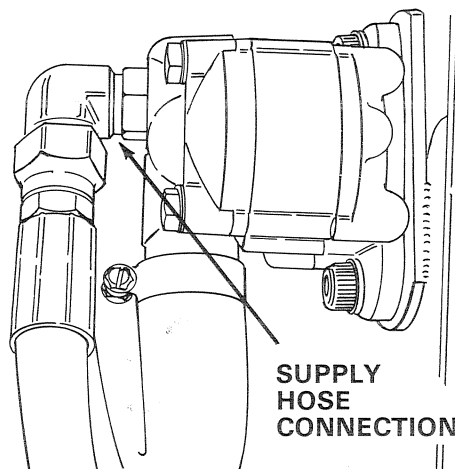

FIGURE 4
6. See figure 4. Remove the hose from between the hydraulic pump and the travel control valve. Note the routing of the hose around the hydraulic lift rockshaft.